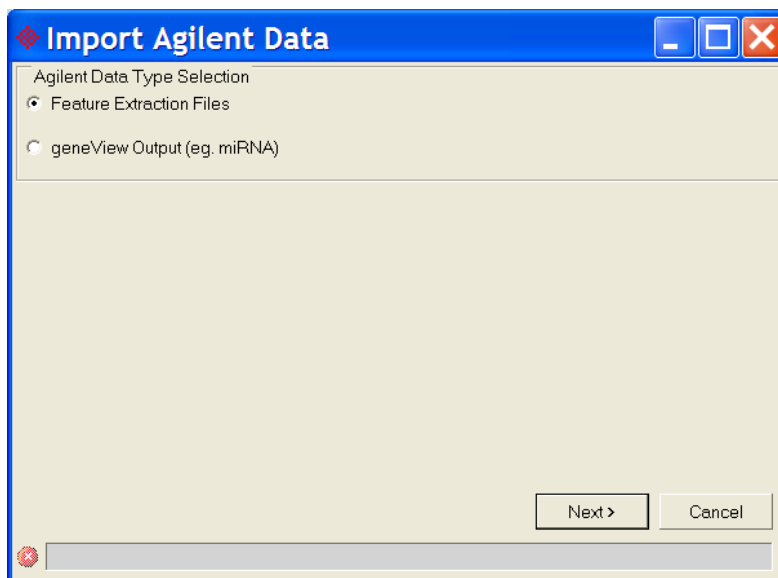

Figure 1: Configuring the *Import Agilent Data* dialog
- There are two types of files importable into Partek, Feature Extraction result text files and GeneView text files. Select the appropriate file type as shown in the *Import Agilent Data* dialog box and select **Next** (Figure 1)